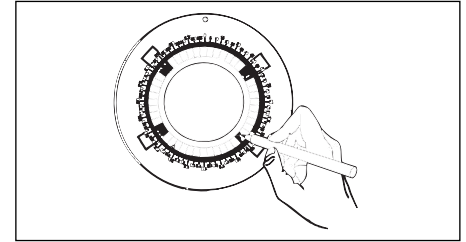

Figure 2
6. Select the mounting bolt pattern from the template (Included with shim) and mark the tabs on the shim which are to be removed to mount the shim **(Fig. 2)**